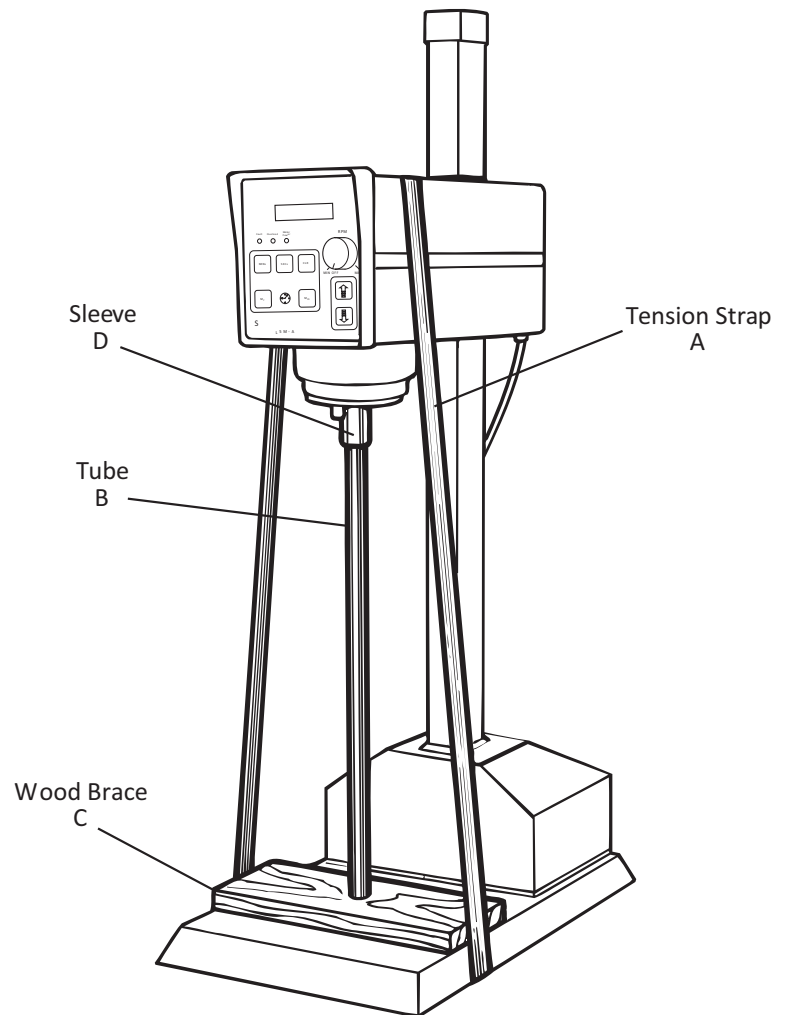

Fig. 1 Unpacking The Mixer
| Fig. 1 Unpacking The Mixer | 7 |
3.1 UNPACKING (Refer to Fig 1)